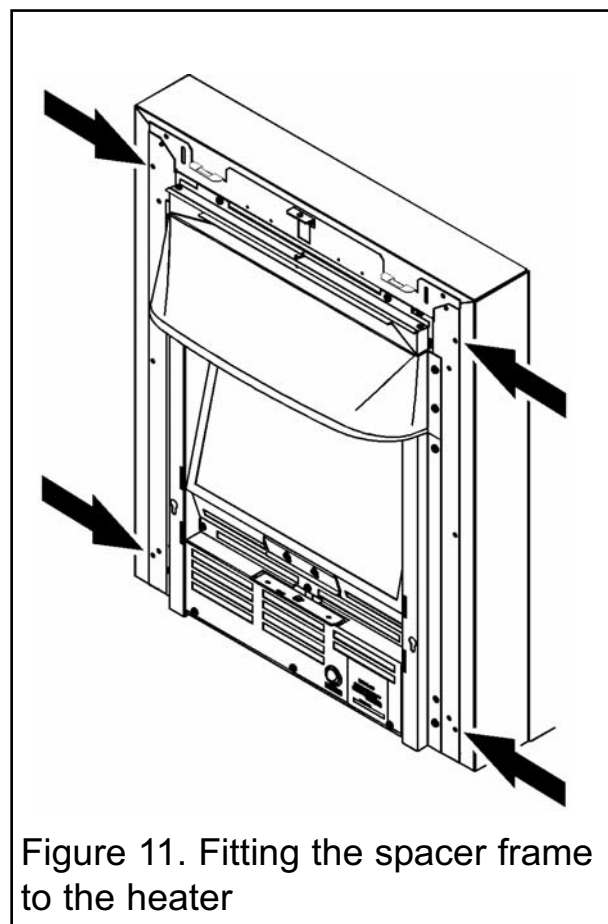

Figure 11. Fitting the spacer frame to the heater
1. Secure the spacer frames to the heater using four No.8 x 3/8 screws supplied (See figures 11 and 1).